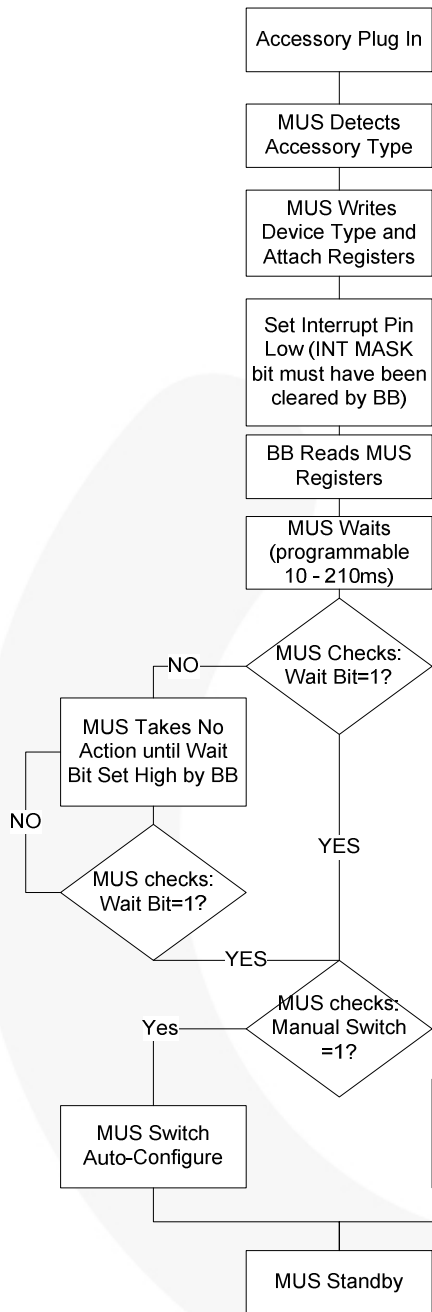
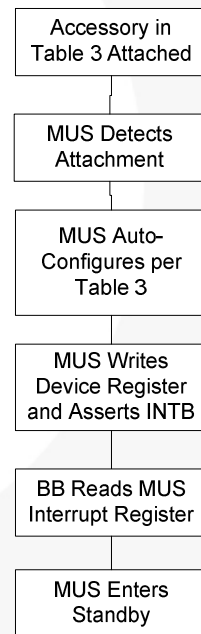

Figure 2. Accessory Detection Flow Chart (Except USB)
Figure 3. USB Detection Flow Chart
This block monitors the ID pin for accessory attach and detach. After determining which accessory has been attached, the detector block reports this back to the digital core, which sends an interrupt to the baseband. Upon detecting changes in the ID pin voltage, the ADC also writes the ADC value bits in the ADC Register. The baseband processor can then read the I²C registers and determine the appropriate action. The programmable wait time does not begin until after the baseband acknowledges the interrupt read. Figure 2 outlines the high-level accessory detection flow sequence for Samsung-specific accessories.
3. Figure 2 applies to all accessories except USB; see Figure 3 for the USB accessory detection flow.